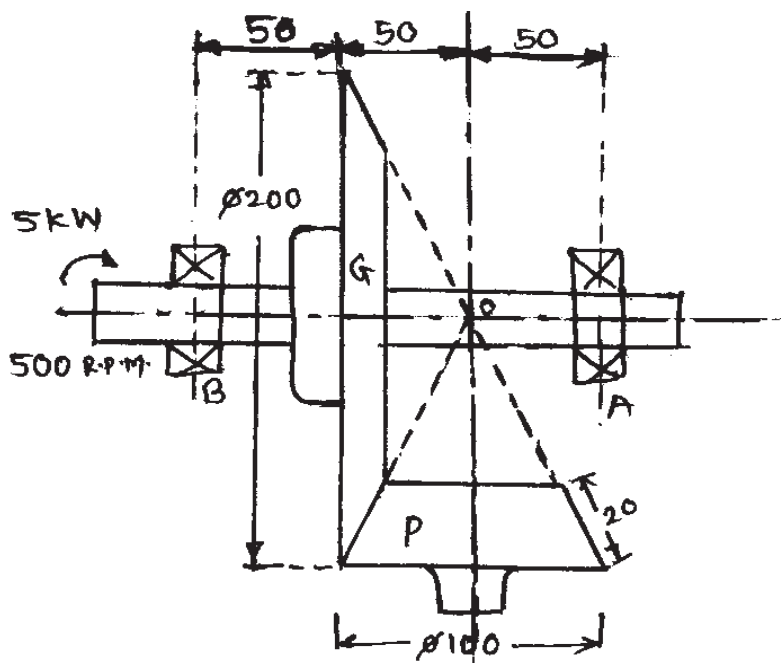

Figure No.2
- Q11)* a) The dimensions of pair of bevel gears are given in Figure No.2. The Gear G delivers 5 kW power at 500 r.p.m. to the output shaft. The bearings A and B are mounted on the output shaft in such a way that the bearing B can take radial as well as entire thrust load., while bearing A can take only radial load. Determine reactions at the two bearings. [Assume $\alpha = 20^\circ$] [12]